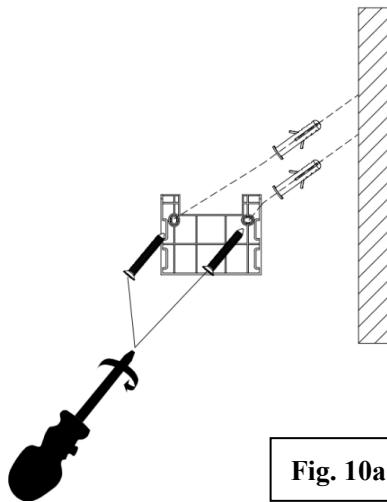

Fig. 10a
1. Locate a suitable wall to fix the remote-control holder with the 2 screws & 2 anchors. (Fig.10a).